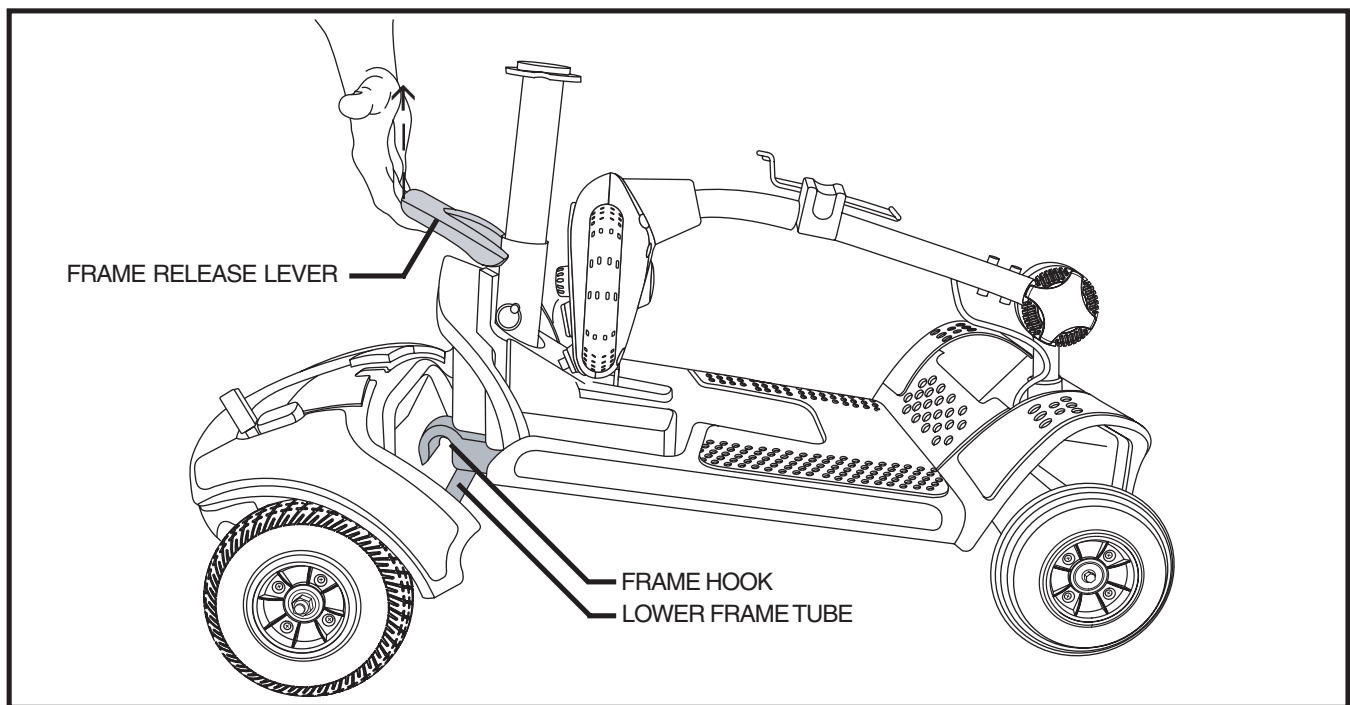

Figure 23. Frame Separation
2. Lift up on the frame release lever until the frame hooks are no longer resting on the lower frame tube. See **figure 23**.
NOTE: Before attempting assembly, tilt the rear half of the Travel Scooter slightly back on the anti tip wheels as shown in figure 23.
1. Use the frame release lever to lift the front section as you align the frame hooks of the front section with the lower frame tube of the rear section. **See figure 23.**